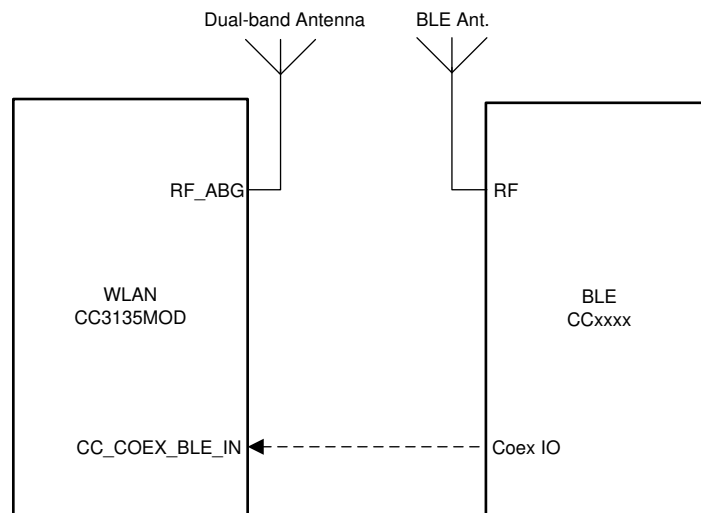

Figure 10-1. Dual-Antenna Coexistence Mode Block Diagram
- Dual-band Wi-Fi (see Figure 10-1)
Figure 10-1 shows the dual antenna implementation of a complete Bluetooth® low energy and WLAN coexistence network with the WLAN operating on either a 2.4- or a 5 GHz band. Note in this implementation no Coex switch is required and only a single GPIO from the BLE device to the CC3135 device is required.